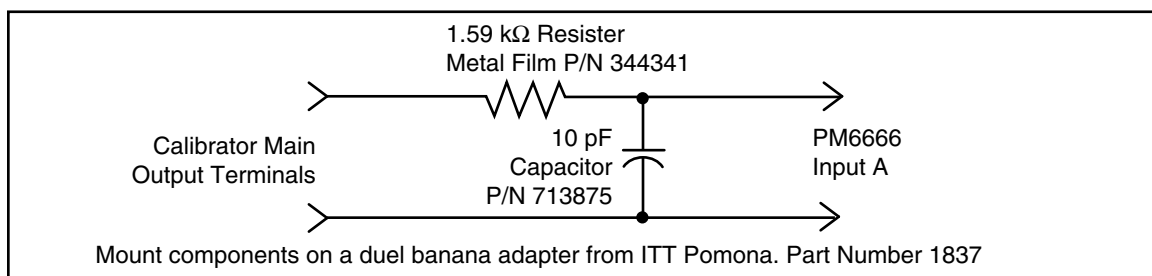

Figure 3-8. 1 MHz Low Pass Filter
3. Connect the equipment as shown in Figure 3-8 using the L&N 0.1Ω resistor.